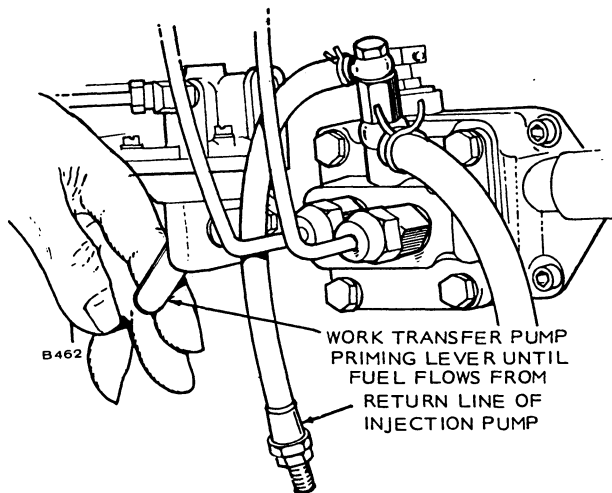

FIGURE 8. FUEL SYSTEM
2. Operate hand priming lever on diaphragm type fuel transfer pump until there are no air bubbles in fuel flowing from the fuel return line, Figure 8.